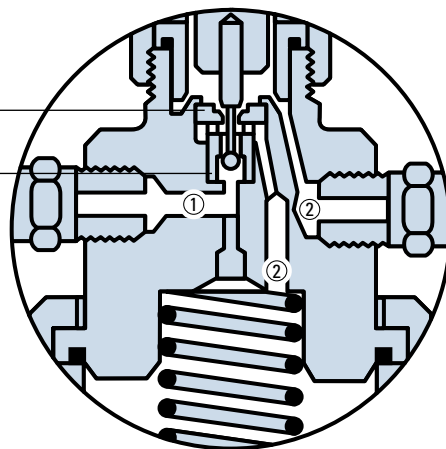

Figure 9
See Figure 9. With the pilot valve energized, high side pressure ① is prevented from entering the cavity above the piston-seat assembly. At the same time the upper pilot port is opened to suction pressure ②. This opens the cavity above the piston-seat assembly to suction pressure ②. The cavity below the piston is exposed to high pressure. The resulting pressure differential across the piston moves the piston-seat assembly up to close the upper (Condenser B) port. When the upper pilot port opens, Condenser B is pumped out through a small bleed hole in the piston. When Condenser B has been pumped out and reduced to suction pressure, all flow ceases, thus eliminating high to low side bleed and the resulting capacity loss that may occur with the system in the single condenser mode.
See Figure 9. With the pilot valve energized, high side pressure ① is prevented from entering the cavity above the piston-seat assembly. At the same time the upper pilot port is opened to suction pressure ②. This opens the cavity above the piston-seat assembly to suction pressure ②. The cavity below the piston is exposed to high pressure. The resulting pressure differential across the piston moves the piston-seat assembly up to close the upper (Condenser B) port. We use a solid piston ring on the piston thereby eliminating high to low side bleed, around the piston and the resulting capacity loss that may occur, with the system in the single condenser mode.